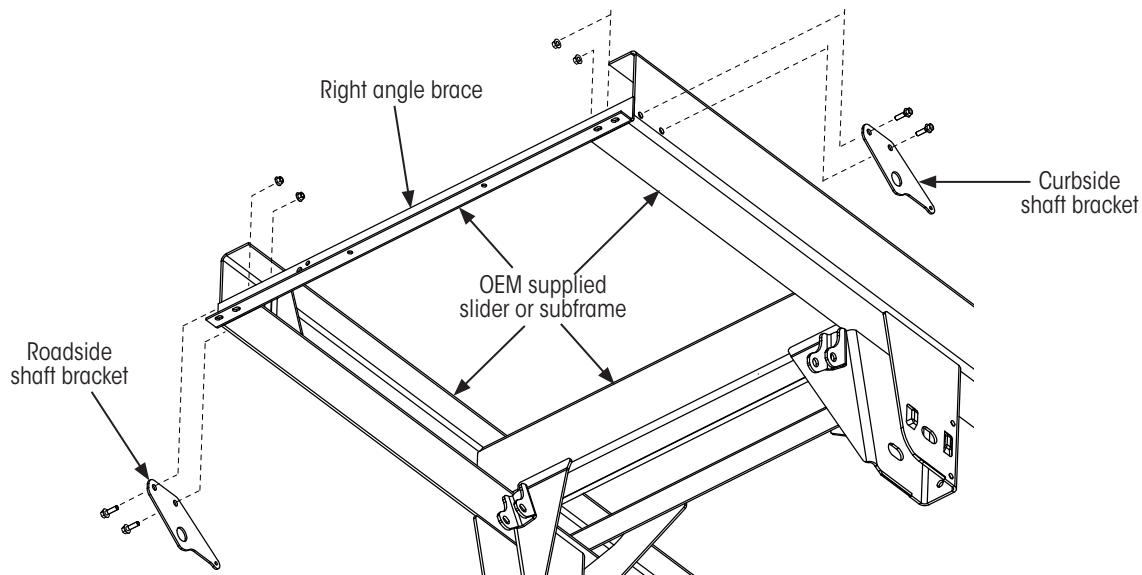

Figure 33: Shaft bracket installation to subframe
**NOTE:** Holes (Figure 33 and Figure 39 on page 25) must be provided for installing shaft brackets. Additionally, the right angle brace, shown, must also be provided, with holes for the air spring actuator installation.
2. **Install** roadside and curbside brackets (Figure 33) using 1/2-inch flange bolts provided with the kit. **Loosely install** bolts to allow brackets to move freely during the next step.